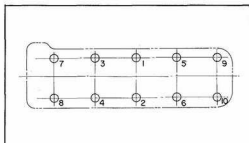

Fig. EM-48 Cylinder Head Bolt Tightening Order
4. Tighten Cylinder head at first round to 6.0 kg-m (43.3 ft-lb.) with a torque wrench. Follow the sequence shown in Fig. EM-48. The final torque should be 9.0 kg-m (65.1 ft-lb.)